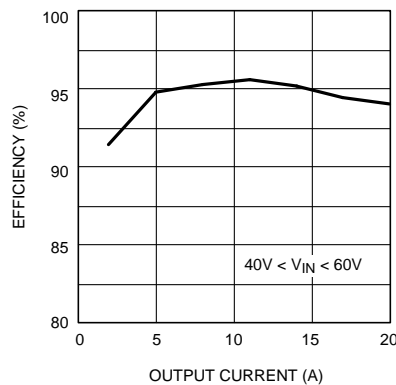
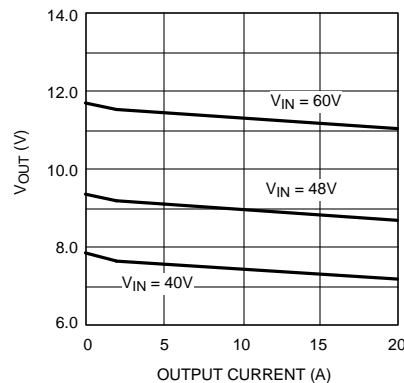
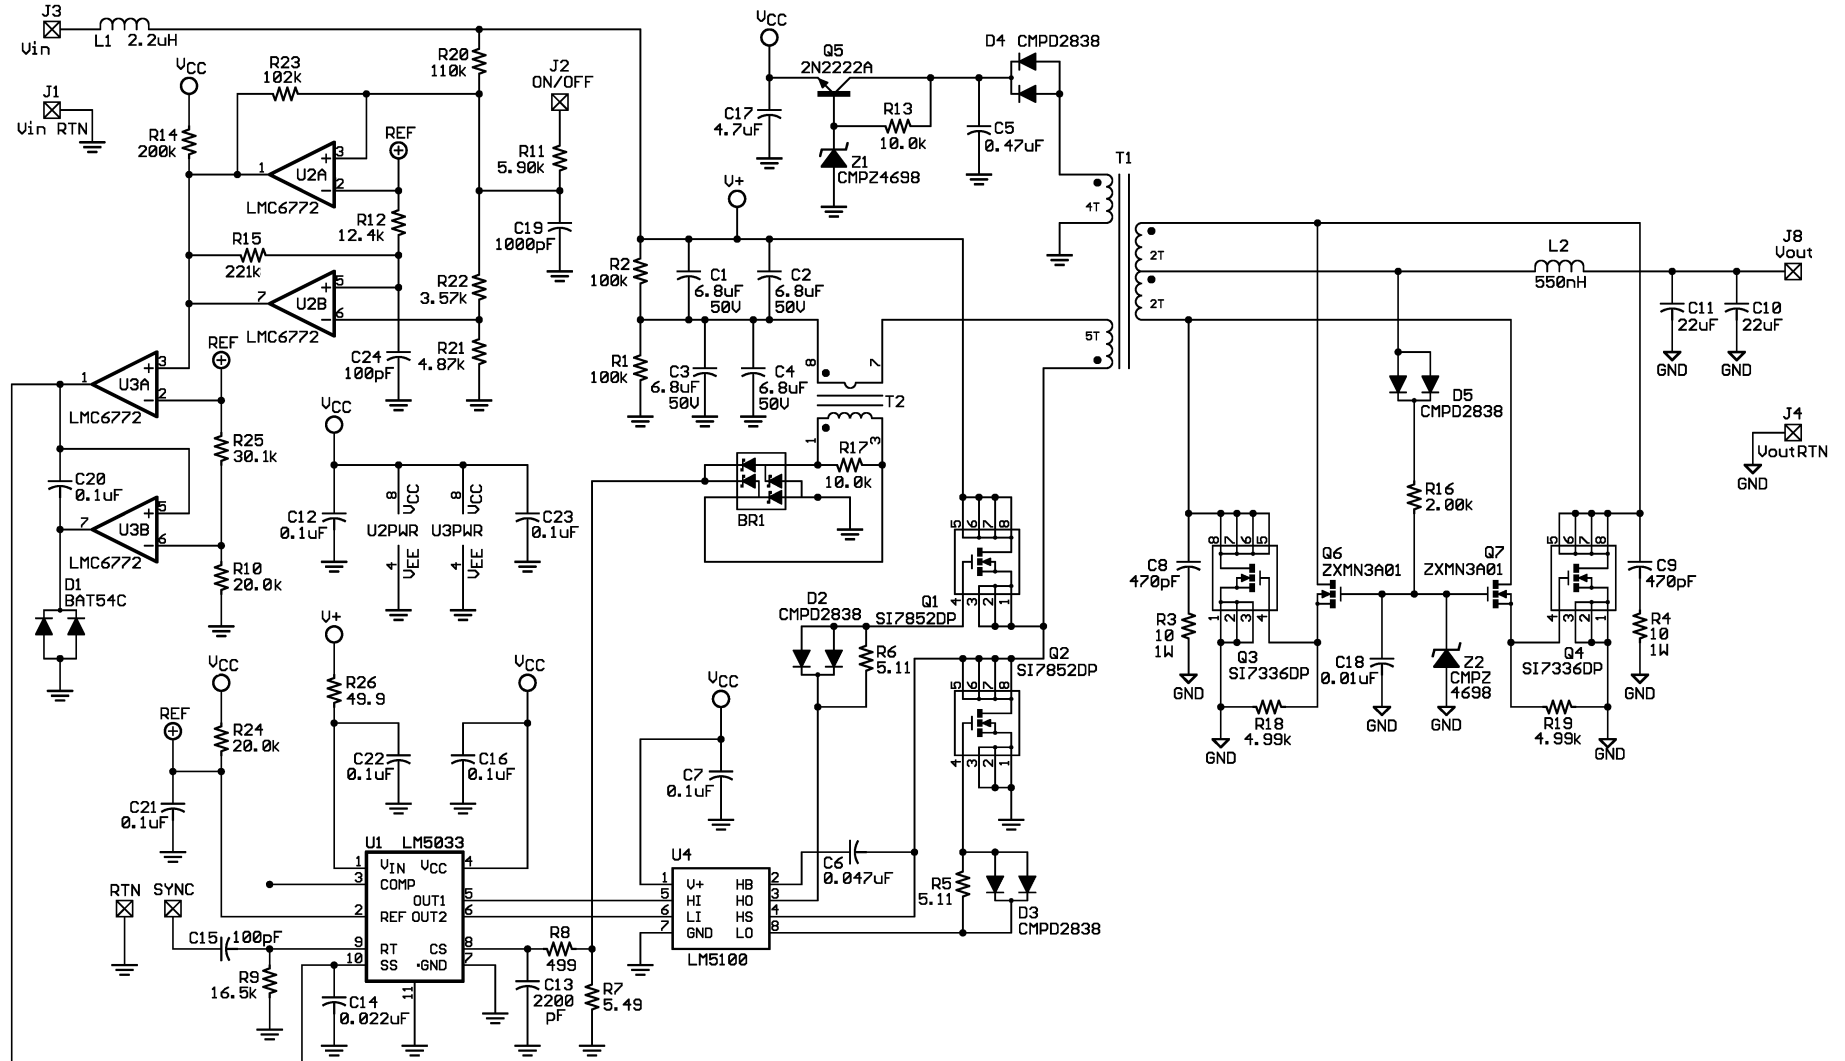

Figure 15. Efficiency vs Output Current
Figure 16.  $V_{OUT}$  vs Load Current and  $V_{IN}$
Figure 17. Intermediate Bus Converter
Figure 17 shows an example circuit for a half-bridge 200W DC/DC converter built in a quarter brick format. The circuit is that of an intermediate bus converter (IBC) which operates open-loop (unregulated output), converting a nominal 48V input to a nominal 9.0V output with a 30 mΩ output impedance. The current sense transformer (T2), and the associated filter at the CS pin, provide overcurrent detection at approximately 23A. The auxiliary winding on T1 powers  $V_{CC}$  and the LM5100's V+ pin (once the outputs are enabled) to reduce power dissipation within the LM5033. The LM5100 provides appropriate level shifting for Q1. Synchronous rectifiers Q3 and Q4 minimize conduction losses in the output stage. Dual comparators U2 and U3 provide under-voltage and over-voltage sensing at  $V_{in}$ . The under-voltage sense levels are 37V increasing, and 33V decreasing. The over-voltage sense levels are 63V increasing, and 61.5V decreasing. The circuit can be shut down by taking the ON/OFF input below 0.8V. An external synchronizing frequency can be applied to the SYNC input. Measured efficiency and output characteristics for this circuit are shown in Figure 15 and Figure 16.
Circuit of Figure 17
for the circuit of Figure 17
**Table 1. Bill of Materials (for the circuit of Figure 17)**
**Table 1. Bill of Materials (for the circuit of Figure 17) (continued)**